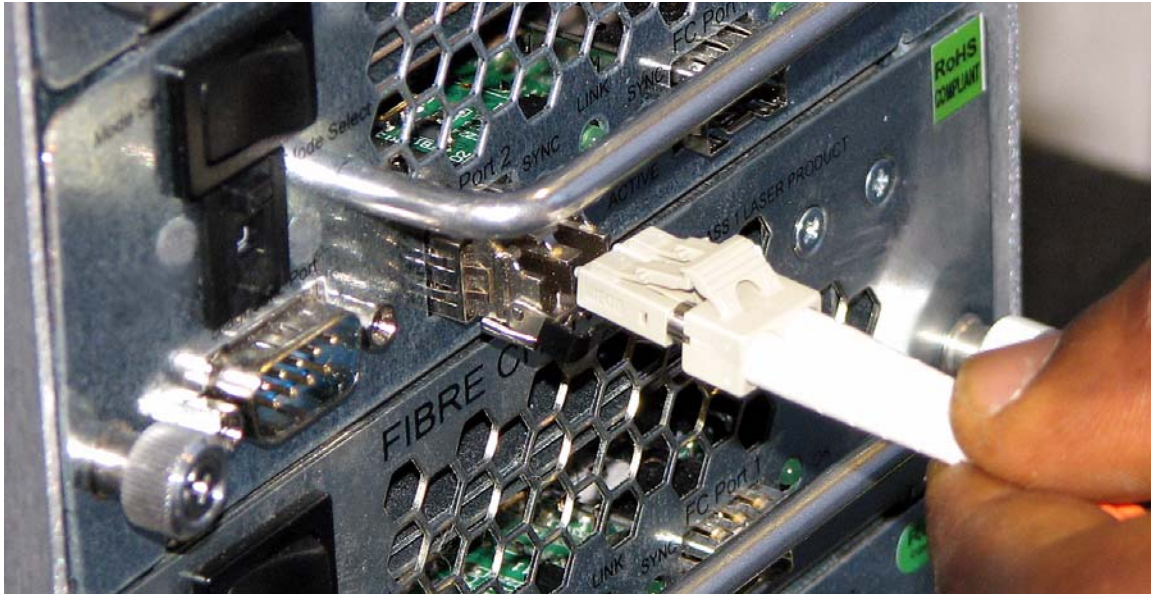

FIGURE 4-6. LC Duplex Cable Being Inserted into the SFP (at FC Port 2).
4. Insert one end of the LC Duplex cable into the SFP at FC Port 1 or FC Port 2. See Figure 4-6.